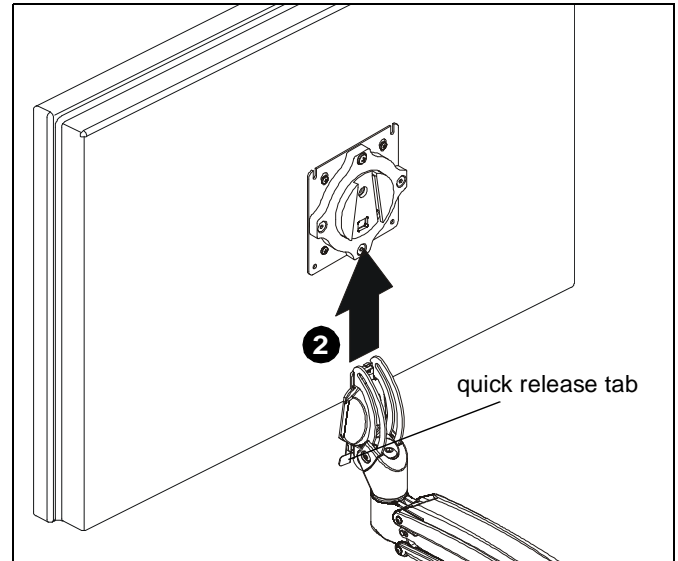

Figure 8
WARNING: Only remove display from mount when the display can be lifted up from the mount! DO NOT remove display unless the display is in the upright position! (See Figure 8)
2. Remove quick release faceplate from mount by pulling quick release lever and sliding faceplate off mount. (See Figure 8)